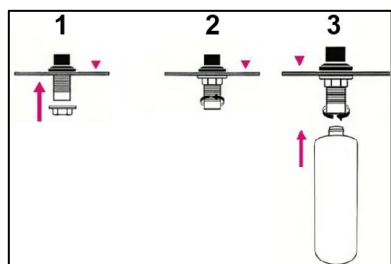

Fig.9
- Assemble the soap bottle (Fig 9). Do not insert the pump head into the bottle yet.